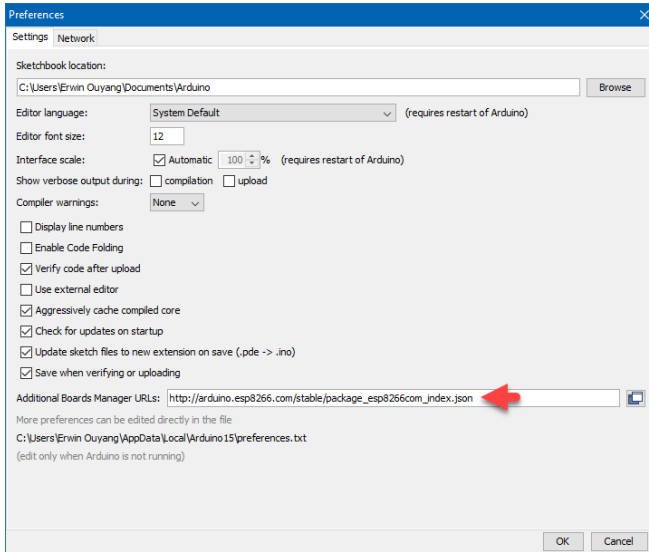

Figure 1.7. Enter ESP8266 package in Arduino preferences
- Enter http://arduino.esp8266.com/stable/package_esp8266com_index.json into **Additional Board Manager URLs** field as shown in Figure 1.7.